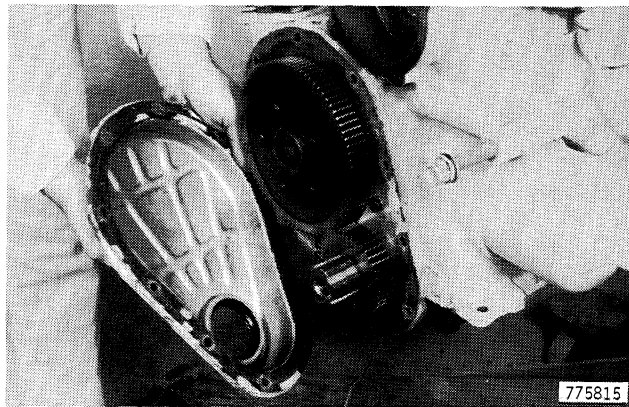

Figure 69
4. Remove the camshaft cover, Figure 69.